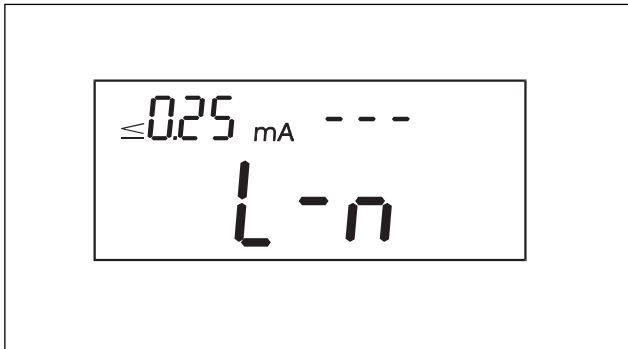

Fig. 7.29
- Press key START/STOP to repeat measurement at reversed phase polarity. For this purpose the connection of L and N polarities are automatically reversed. Phase polarity indication and measurement display are carried out as shown in Figures 7.29 and 7.31.
- Connect COMMANDER 2 to UNITEST MACHINEmaster, switch on measurement appliance and set switch Measurement Function to position  $I_{Leak}$  (measurement function 11). The following is displayed (Fig. 7.29).